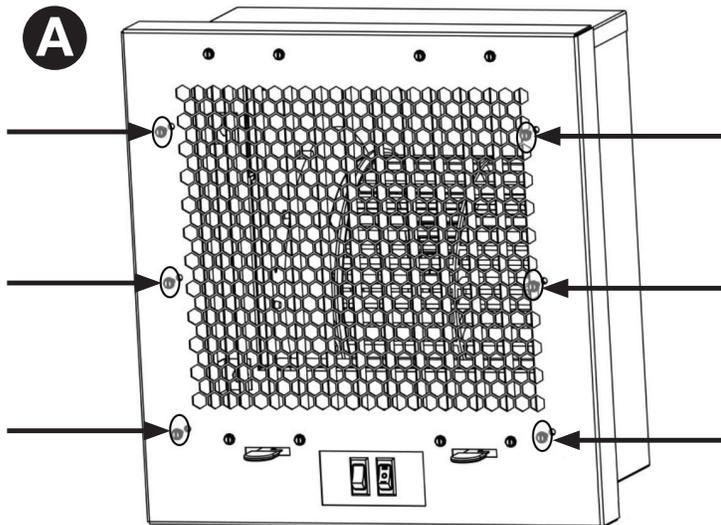

Fig. 2 - Output Grille Removal
- A. Remove the six screws on the sides of the screen (Fig. 2).